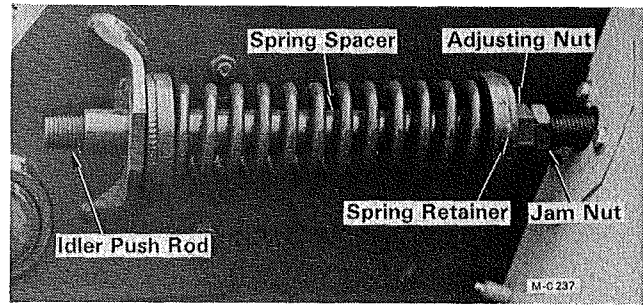

Figure 29 - Below S/N 50439
1. With the Shredder running, look at the idler push rod, Figure 29, to see if there is any back and forth movement. If there is, the belt tension needs to be adjusted.
2. Loosen the jam nut and tighten the adjusting nut one full turn, see Figure 29.
11. **Below S/N 50439** - Turn the idler spring adjustment nut clockwise until the spring retainer is up to, but not tight against, the spring spacer, see Figure 29.
9. **Below S/N 50439** - Turn the idler spring adjustment nut clockwise until the spring retainer is up to, but not tight against, the spring spacer, see Figure 29.